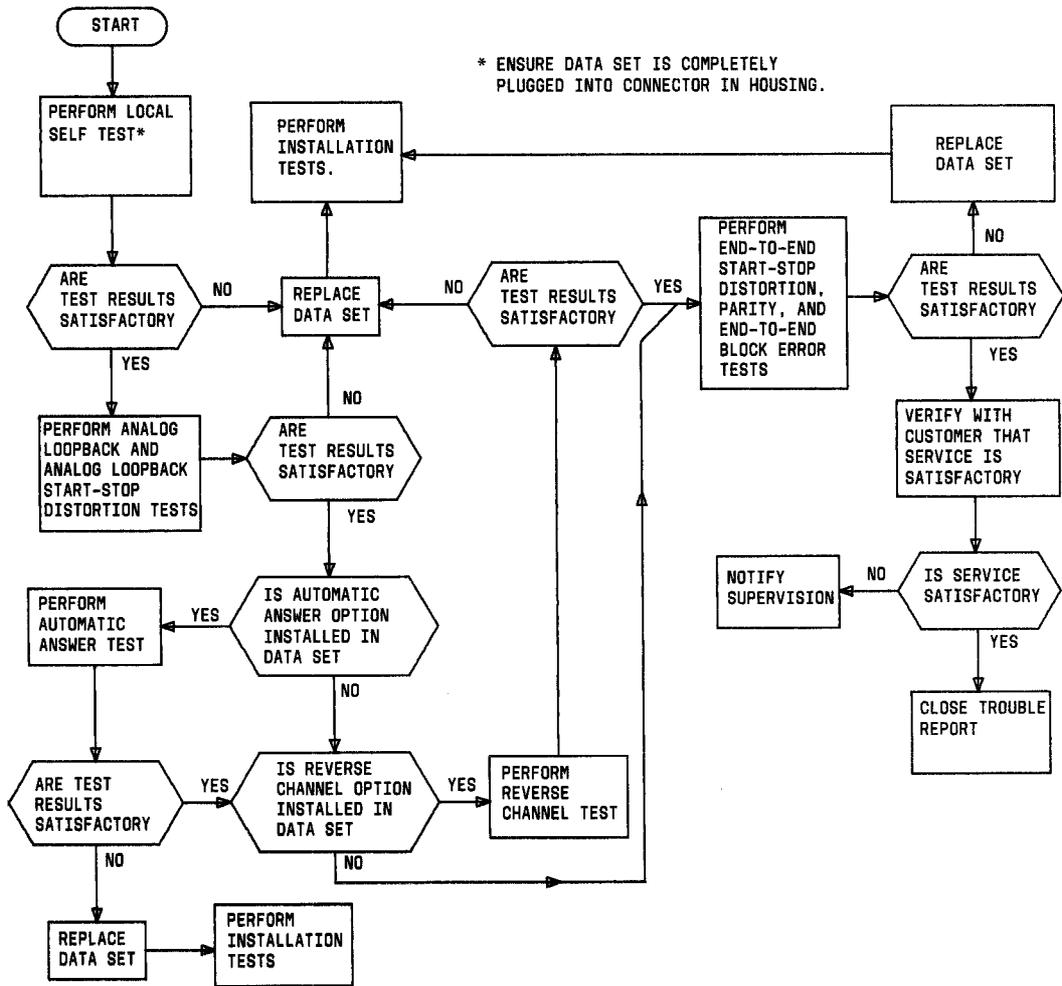

Fig. 4—Maintenance Test Sequence
3.04 Refer to Fig. 4 for the sequence in which tests are to be performed by the telco employee at the data station. If the data set is replaced, the defective data set should be tagged with a description of the trouble, carefully packed, and returned to the service center for repair. Verify that the replacement data set is equipped with the proper options before placing the data set in service.